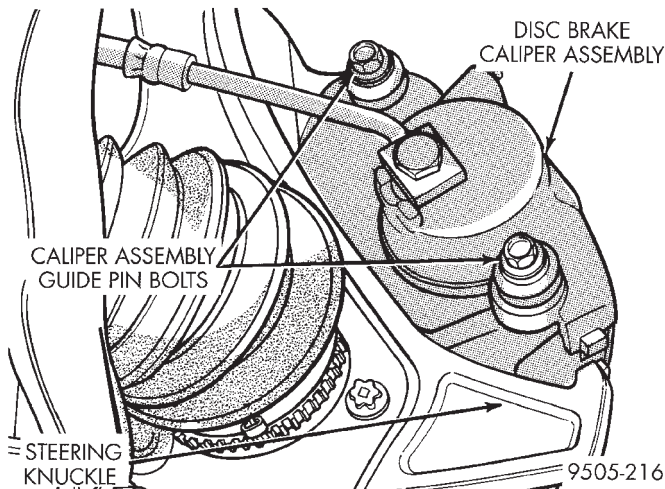

Fig. 41 Front Disc Brake Caliper Mounting
(4) Remove front tire and wheel assembly from the hub.
(5) Remove front disc brake caliper to steering knuckle guide pin attaching bolts (Fig. 41).
(10) Install the disc brake caliper guide pin bolts (Fig. 41). Tighten caliper assembly guide pin bolts to a torque of 31 N-m (23 ft. lbs.).